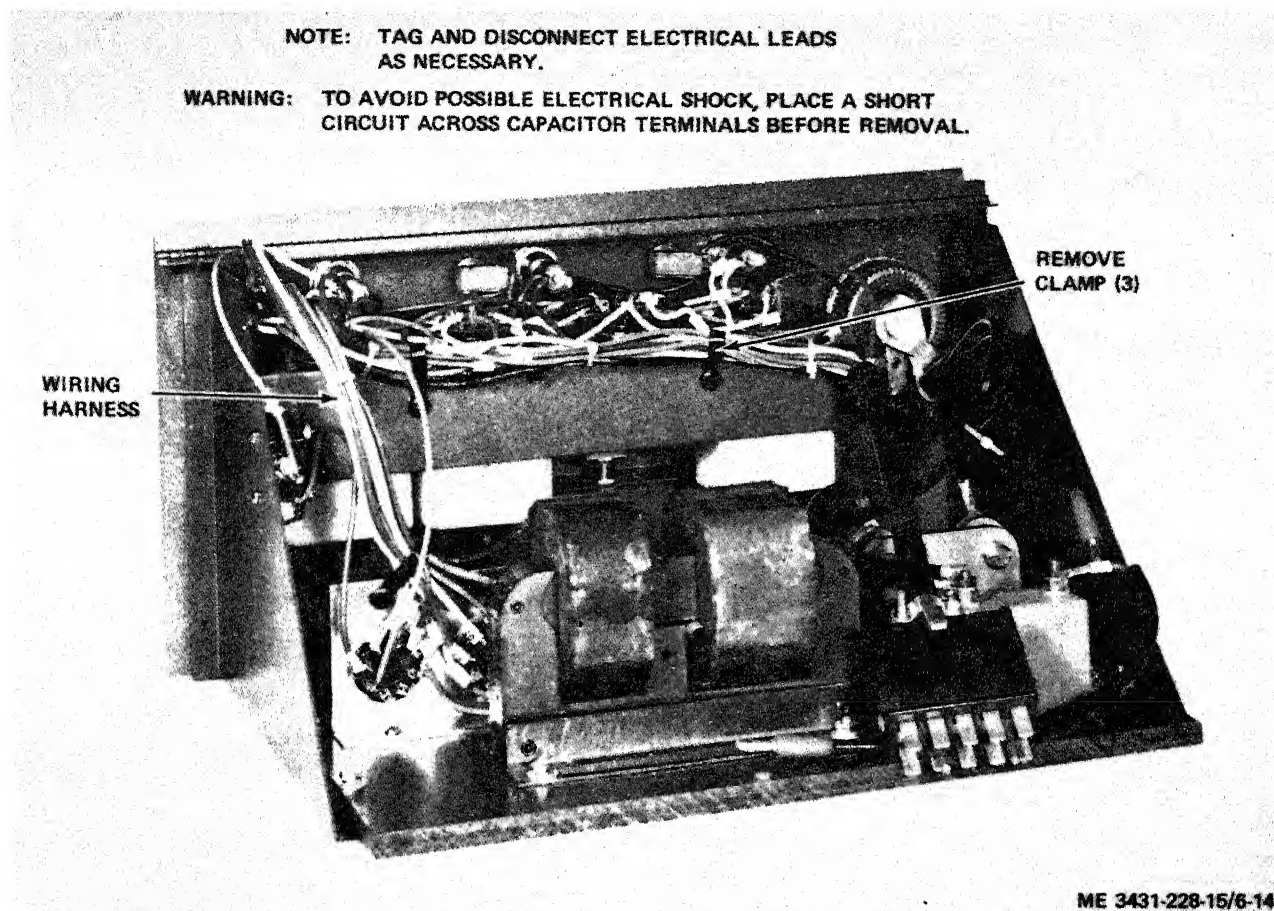

Figure 6-14. Timer and high frequency drawer harness, removal and installation.
- (1) Remove the timer and high frequency drawer (para 3-19).
- (2) Refer to figure 6-14 and remove the drawer
- (1) Refer to figures 6-14 and 7-1 and install the wiring harness.
- (2) Install the timer and high frequency drawer (para 3-19).